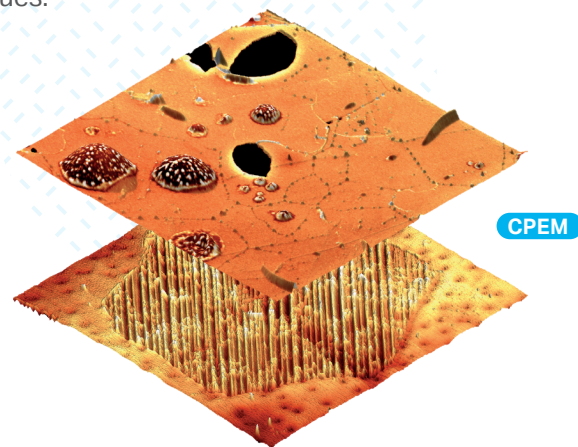

Figure 2. **Top:** 3D CPEM view of a thin layer of BiFeO_3 on a HOPG substrate. **Bottom:** A monolayer of graphene on a Cu foil preserving the rough surface of copper.
- 3D surface topography extension of the SEM image (Figure 2)